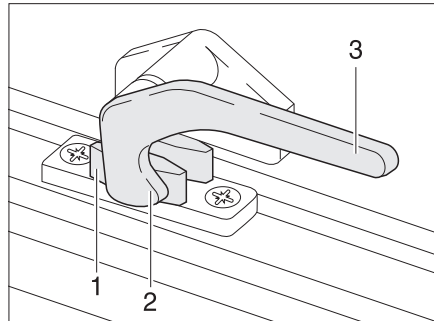
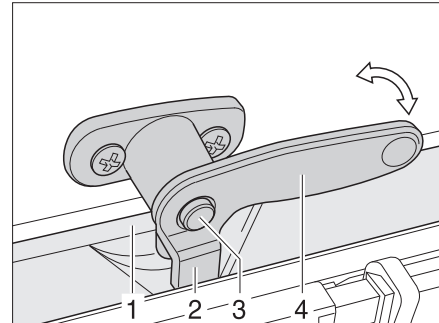

Fig. 66 Catch lever in "closed" position
Fig. 67 Catch lever with safety knob in "closed" position
- If it exists, press the safety knob (Fig. 67,3) down and hold it.
- Turn the catch lever (Fig. 66,3 or Fig. 67,4) a quarter turn towards the centre of the window.
- Turn the catch lever (Fig. 66,3 or Fig. 67,4) a quarter turn towards the centre of the window frame. The locking catch (Fig. 66,2 or Fig. 67,2) is located on the inside of the window catch (Fig. 66,1 or Fig. 67,1).
- "Firmly closed" (Fig. 66)